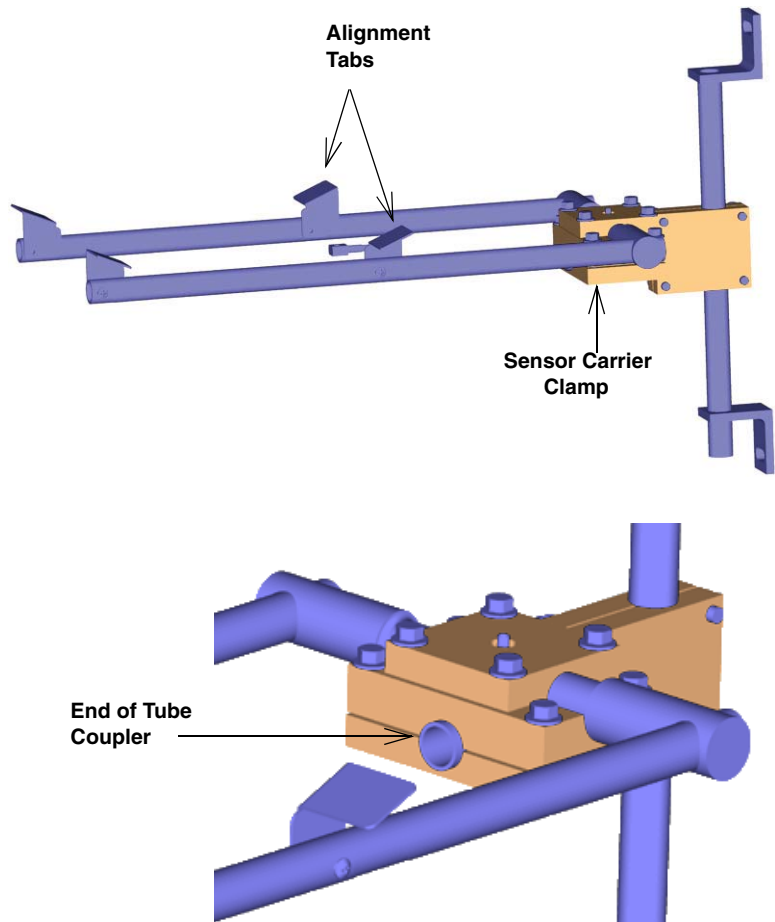

Figure 2-20 Wall Mount: Sensor carrier installed on tube coupler
4. Push the sensor carrier clamp onto the tube coupler until the coupler appears on the other side of the clamp. Align the carrier with both arms parallel to the flow surface and cross-tighten the bolts so the carrier is held firmly in position. Ensure the alignment tabs are facing up (see Figure 2-20).